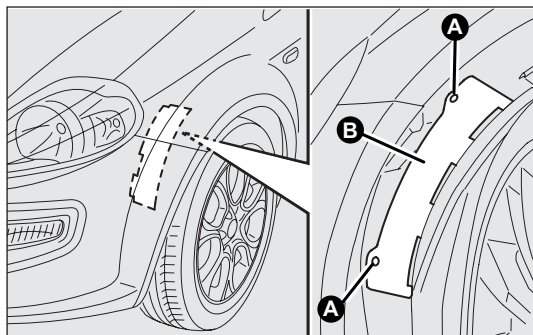

fig. 163
Front fig. 163
- turn the catch A-fig. 163, then lift off the access lid B;
- close the lid B-fig.163 then tighten the catch A.